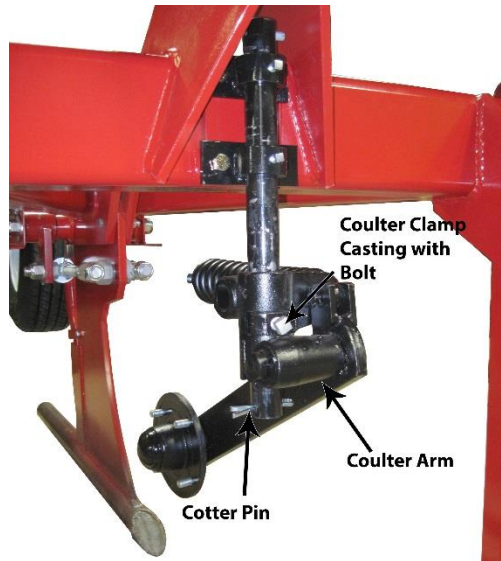

Figure 8: Coulter Arm Mounted on Coulter Shank
- c) Slide the coulter shank into position as shown in Figure 8. Clamp the coulter shank in place by tightening each bolts a little at a time until the coulter shank is secured in place.